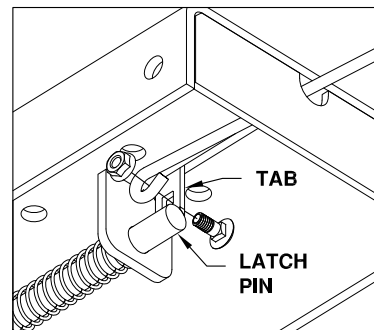

Figure F2: Handle Installation
- Secure the handle to the pin with the 5/16" X 3/4" carriage bolt and 5/16" locking flange, see Figure F2. Note: The included 5/16" cap screw can replace the carriage bolt if wrench access on the "cab side" of the handle is limited. Tighten the nut until it is secure. Do not over-tighten and deform the handle eyelet.